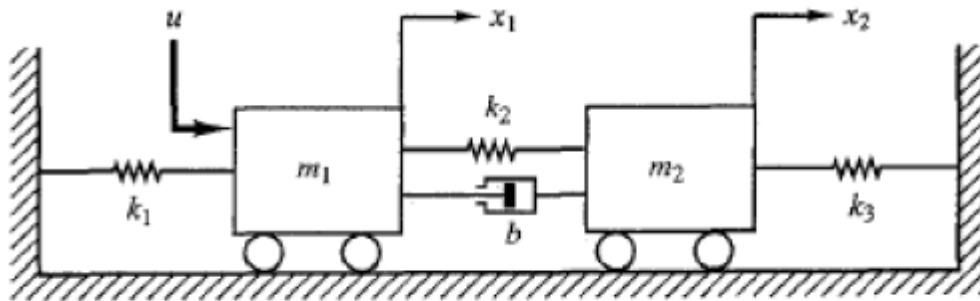

Fig: 2
Q.9 [CO 2,3] Sketch the free body diagram for the given mechanical system shown in fig:2 and derive transfer functions $X_1(s)/U(s)$. For the same system obtain the electrical analogous system using force voltage and Force current analogy. (10)